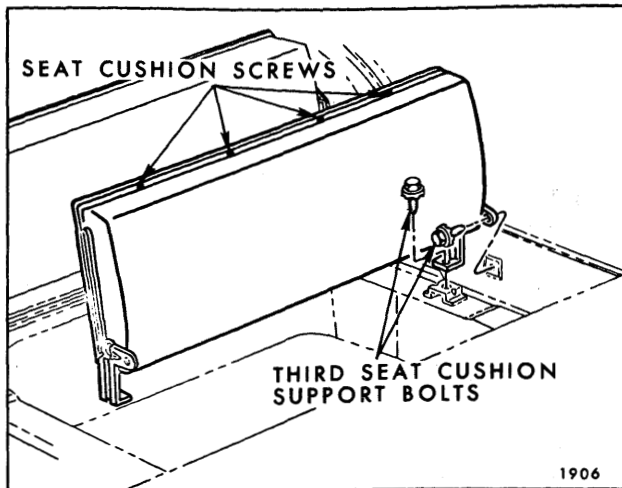

Fig. 10-52—Folding Third Seat Cushion
1. Lift third seat cushion to a half raised position or approximately vertical to floor pan (Fig. 10-52).
2. Remove four seat cushion screws from rearward edge of cushion (Fig. 10-52).
1. Lift third seat cushion to a half raised position or approximately vertical to floor pan. (See Fig. 10-52).
2. Remove two bolts at each side of seat securing supports to body (Fig. 10-52); then, remove seat cushion, panel assembly and supports from body and place on a clean protected surface.